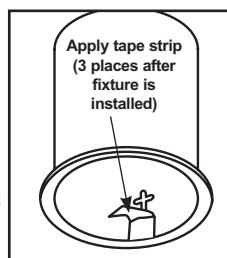

Figure 5
**Step 5.** Apply tape strips over each of the three retention clips and slots (four for the 4"). Cover completely with the tape strips. Use the supplied strips, do not substitute with duct tape (Fig. 5).